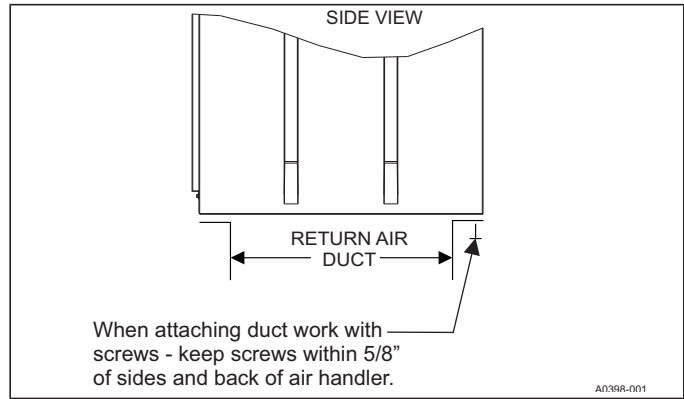

FIGURE 1: Return Air Duct Attachment
- The unit rating plate displays the air handler model number. The unit dimensions for the supply air plenum are provided in Figure 5 and Table 1 of this Instruction Manual. The plenum must be installed according to the instructions. The return air duct attachment is shown in Figure 1.